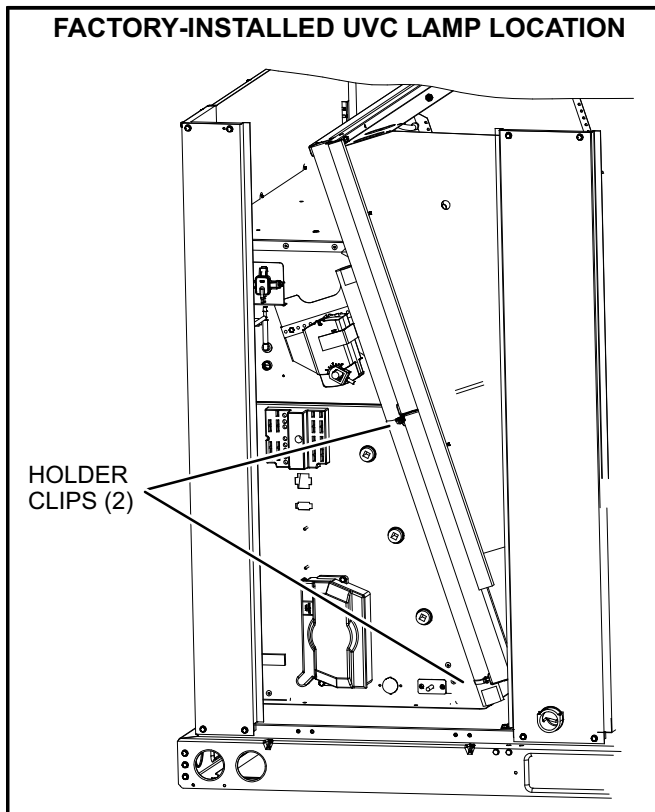

FIGURE 33
- 1- Cut wire ties and remove the UVC lamp attached to the filter rack. See figure 33.